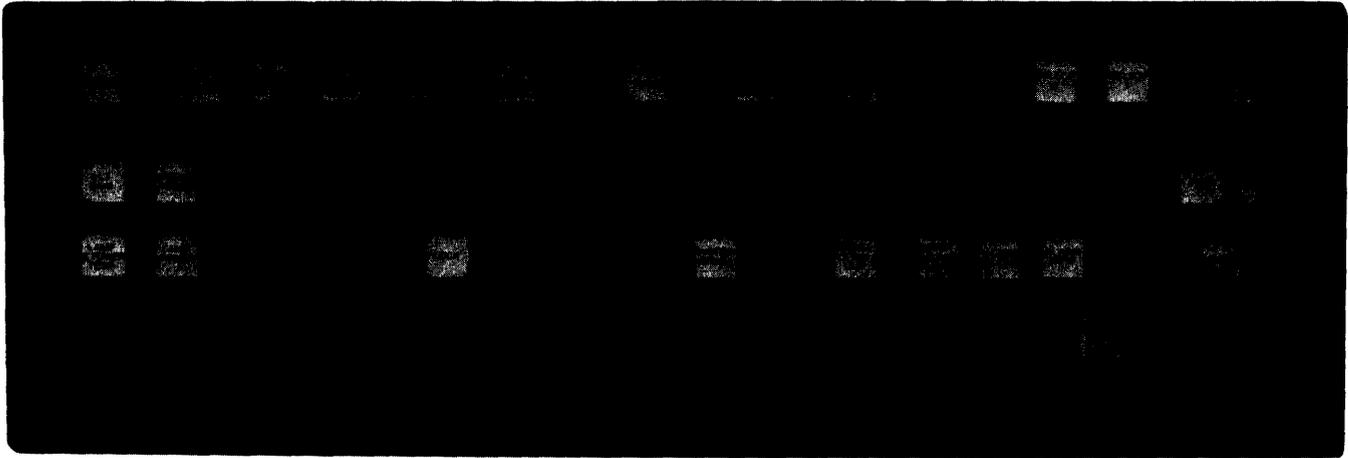

Fig. 2—System Status Panel
**3.05** The SSP (Fig. 2) provides indications of normal as well as emergency and alarm conditions. The SSP provides designated keys to implement system emergency manual control as well as keys for test control, alarm control, and panel power. Visual indications are provided also, to relate instantaneous system status. The types of indications include system control status, other equipment status, equipment troubles, and power failures.